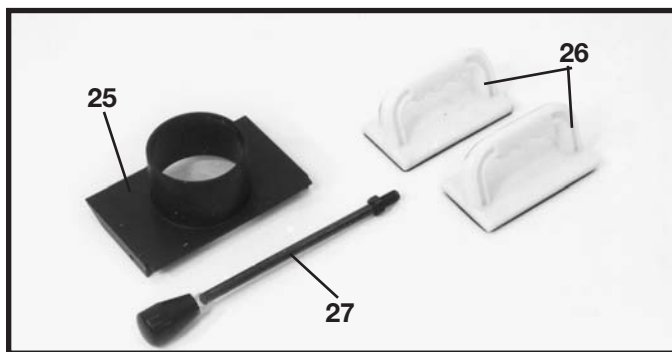
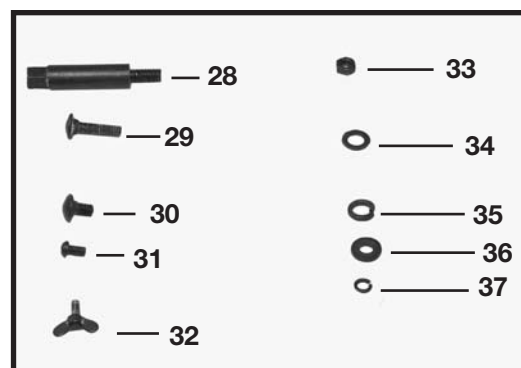

Fig. 4A
Fig. 4B
**⚠ WARNING** **WARNING: JOINTER WEIGHT IS APPROXIMATELY 175 LBS. CARE MUST BE TAKEN WHEN LIFTING THE MACHINE.** Your new jointer is shipped complete in one carton. Carefully unpack the jointer and all loose items. Fig. 4, Fig. 4A and Fig. 4B, illustrate the jointer and all loose items supplied with your machine. Remove the protective coating from the table surface and all unpainted parts. This coating may be removed with a soft cloth moistened with kerosene (do not use acetone, gasoline or lacquer thinner for this purpose). After cleaning cover the table surface with a good quality paste wax. Buff out the wax thoroughly to prevent it from rubbing into the workpieces.